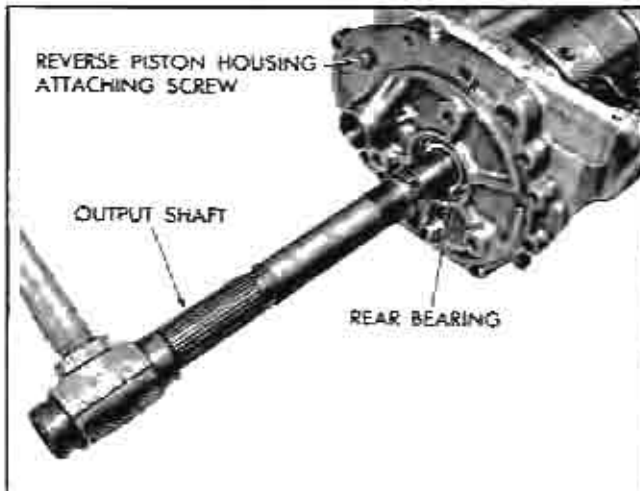

Fig. 60 Freeing Output Shaft
10. Tap rear end of output shaft with soft hammer to free shaft from rear bearing inner race (Fig. 60). Make sure parking brake pawl is not engaged.